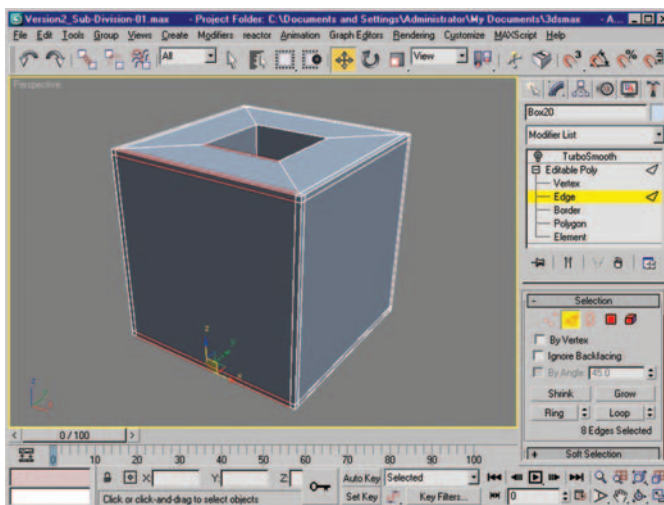

Figure 6.28 Edge-ring selection.
5. Select one of the edges bordering the top of the new opening and use Alt+R to create a ring selection. Figure 6.28 shows the edge-ring selection.